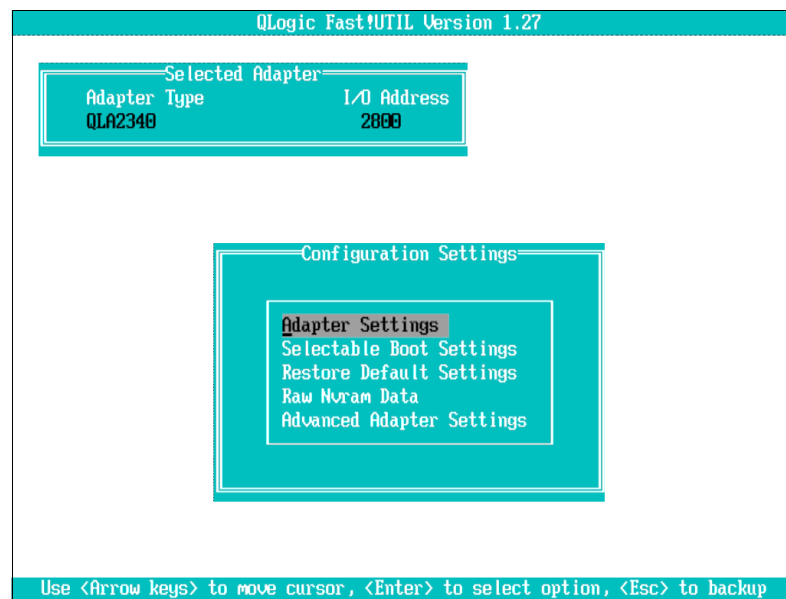
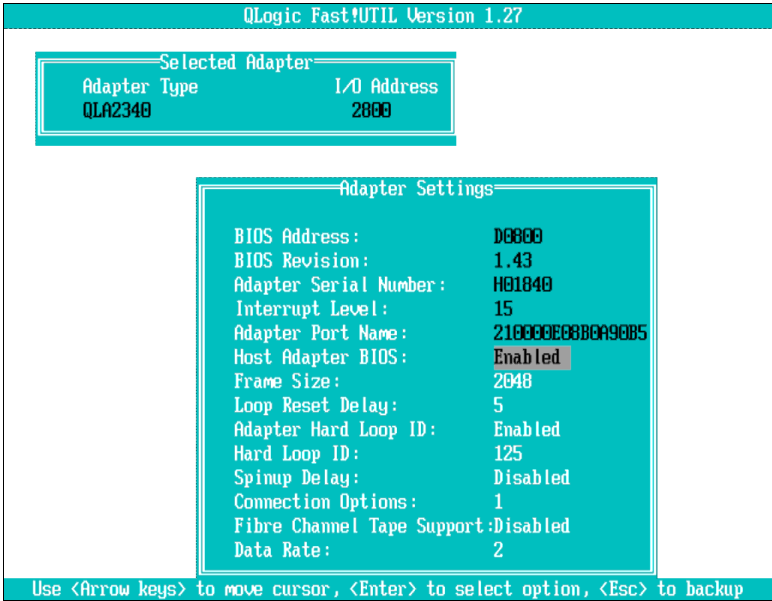

Figure 1-11 Configuration Settings menu
Figure 1-12 Adapter Settings menu
4. In the next panel (see Figure 1-11), select **Adapter Settings**.
- The Adapter Settings menu is displayed (see Figure 1-12). Change the Host Adapter BIOS setting to **Enabled**, and then press Esc to exit and go back to the Configuration Settings menu shown in Figure 1-11 on page 18.